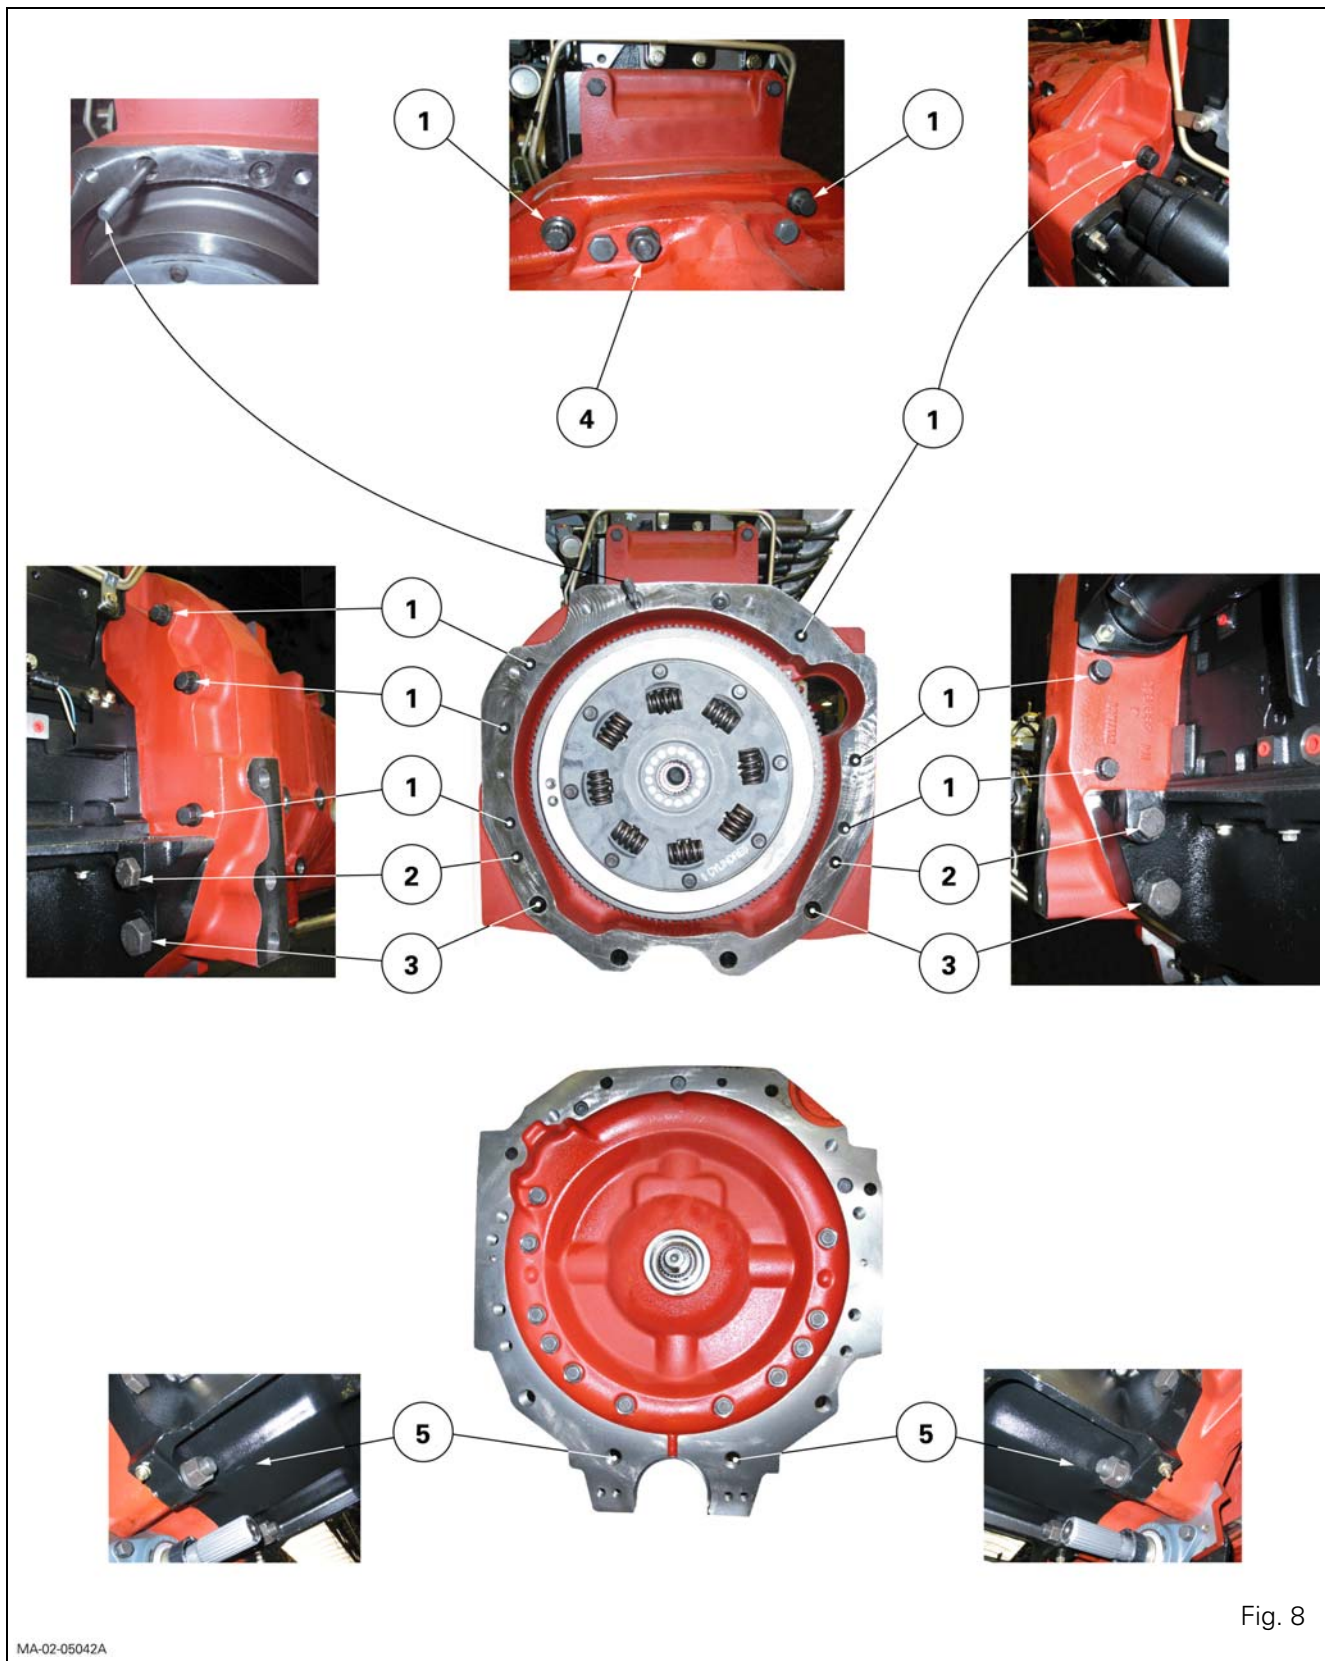

Fig. 8
21. Remove the screws and nuts attaching the engine to the gearbox (Fig. 8). Mark their lengths and positionings.